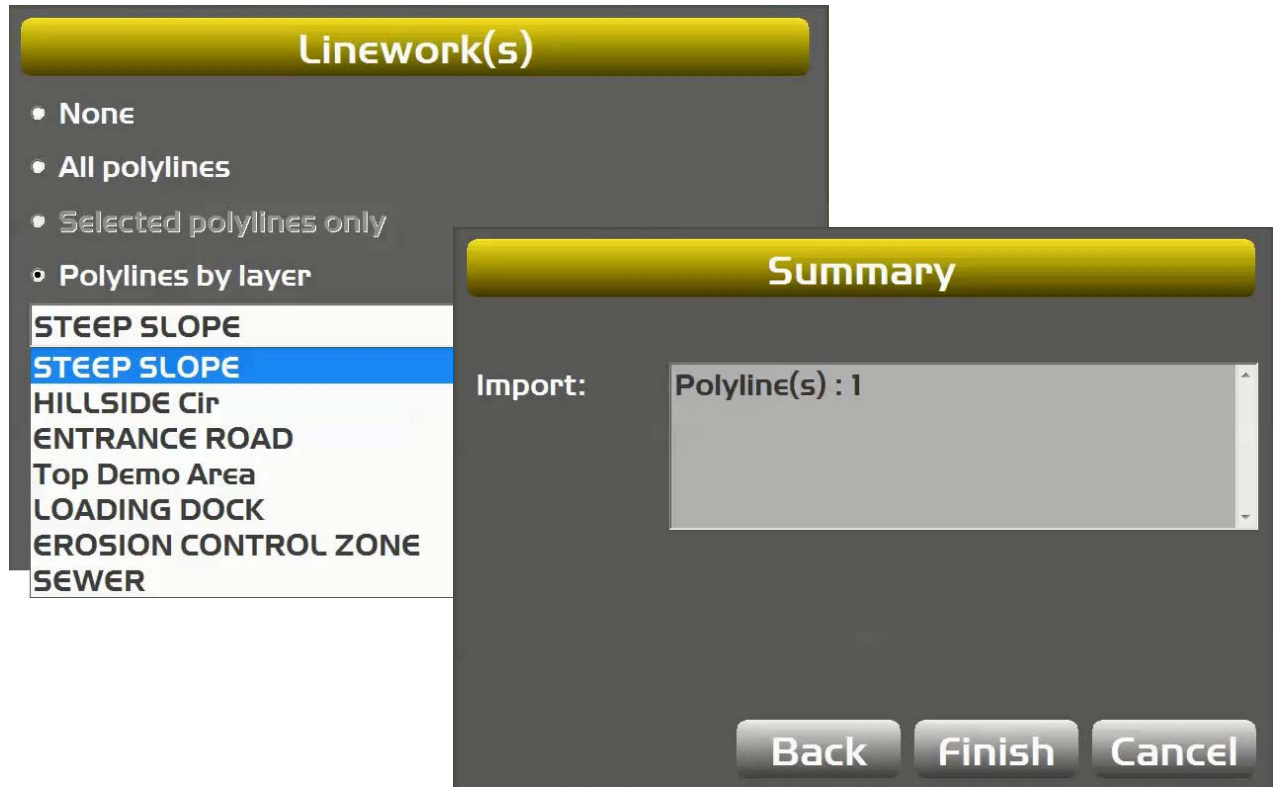

Figure 27: Importing Data from a TP3 File
- b. If importing data from a TP3 file, the **Point(s)** or **Linework(s)** screen appears (Figure 27). Select the data to import, and tap **Next**. The **Summary** screen appears (Figure 27), indicating how many points or lines will be imported. Tap **Finish** to import, or tap **Cancel**.